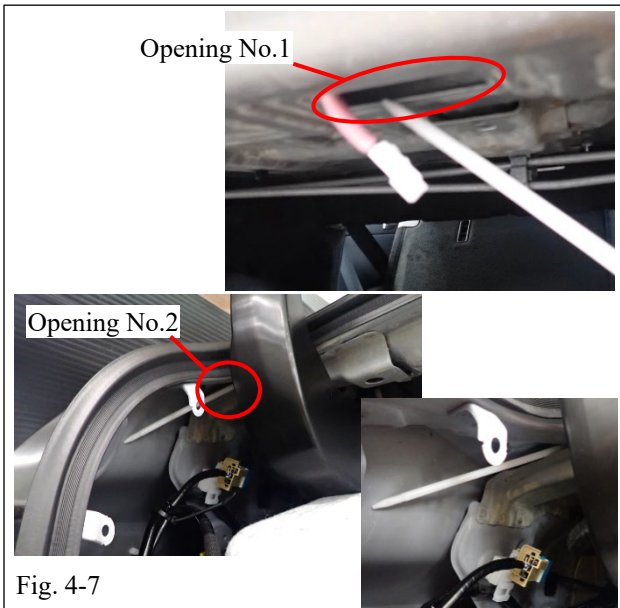

Fig. 4-5
(h) Reassemble two (2) covers to Illuminated Trunk Sill (Fig. 4-5).